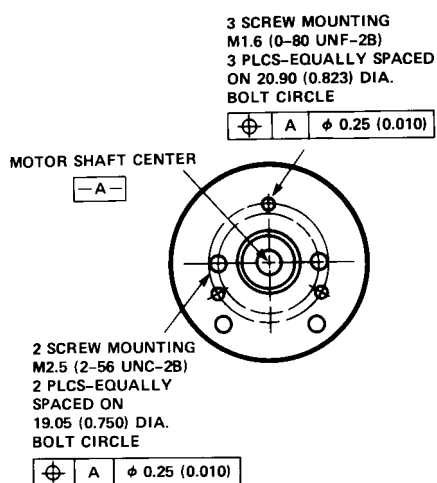
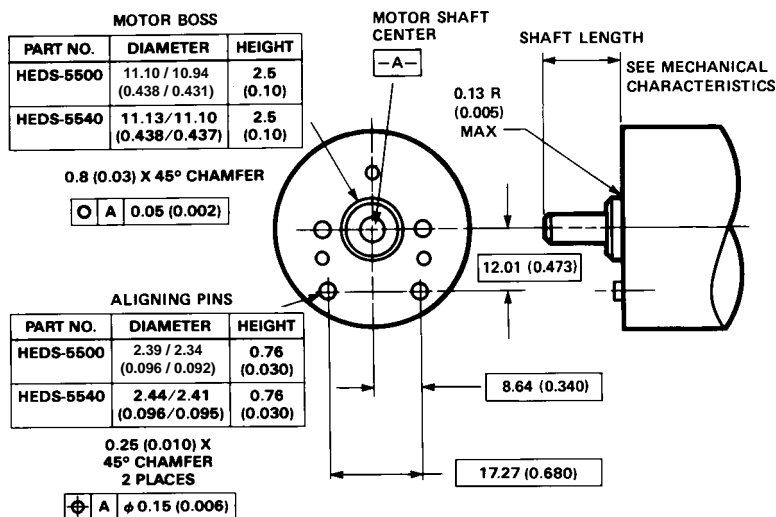

Figure 2. Mounting Holes.
Figure 3. Optional Mounting Aids.
- The HEDS-5540 and 5640 must be aligned using the aligning pins as specified in Figure 3, or using the alignment tool as shown in "Encoder Mounting and Assembly". See also "Mounting Considerations."
The HEDS-5540 and 5640 three channel encoders and the HEDM Series high resolution encoders must be aligned using the aligning pins as specified in Figure 3, or using the HEDS-8910 Alignment Tool as shown in Encoder Mounting and Assembly.
mounting option as shown in Figure 2. The optional aligning pins shown in Figure 3 can be used with either mounting option.